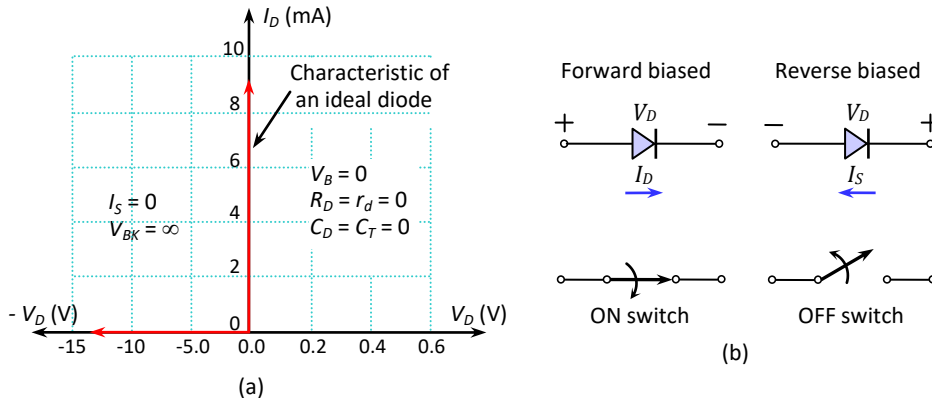

Fig.2-14: (a) Characteristics of an ideal diode, (b): Switch and ideal diode analogy
In electronic circuits a PN junction diode is used as a switch that allows current only in one direction (forward direction). Although, a PN junction can behave as a one-way switch, in addition to switching property it has barrier voltage  $V_B$ , reverse saturation current  $I_S$ , junction capacitance ( $C_D$ ) and some resistances ( $R_D$ ). Actually these additional parameters are unwanted. An ideal diode is such a diode that provides only the one-way switching property, but will have no barrier voltage, reverse current, junction capacitance, and any resistance. Moreover, an ideal diode will have no limitation like – reverse breakdown, forward current limitation etc. The  $I$ - $V$  characteristic curve of an ideal diode is given in Fig.2-14(a).
The operation of an ideal diode can be compared with that of a mechanical switch. If the diode is forward-biased, it works like a closed (ON) switch and if it is reverse-biased the diode works like an open (OFF) switch as shown in Fig.2-14(b). Though a mechanical switch can conduct current in both directions, a diode conducts current only in the forward direction.